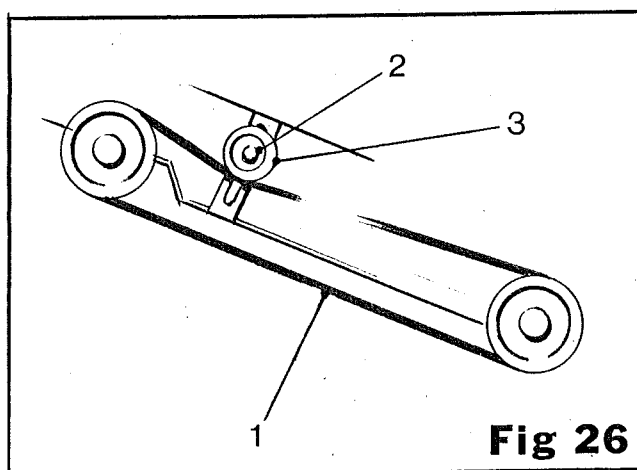

Fig 26
To adjust the tension of the vee belt (item 1, fig 26) slacken the retaining bolt (item 2, fig 26) and slide the roller (item 3, fig 26) as required.